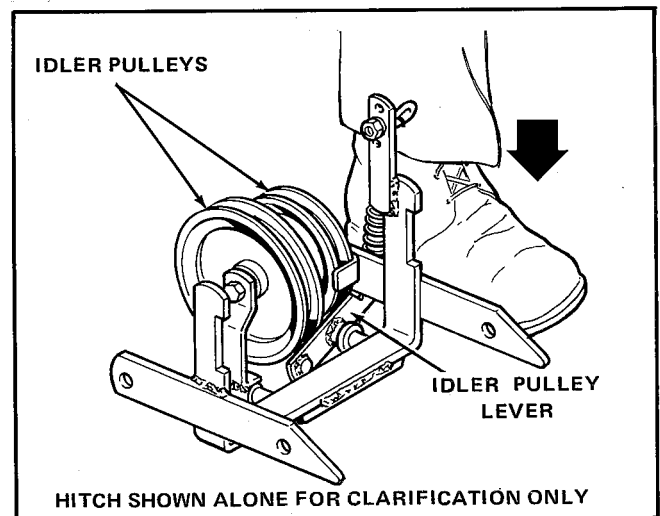

Figure 3. Raise Idler Pulley
5. Step down on idler pulley lever to raise one idler pulley on hitch (see figure 3).
- Raise tractor hood. Step down on idler pulley lever (see figure 3) to slacken V-belt, and remove belt from engine PTO pulley.